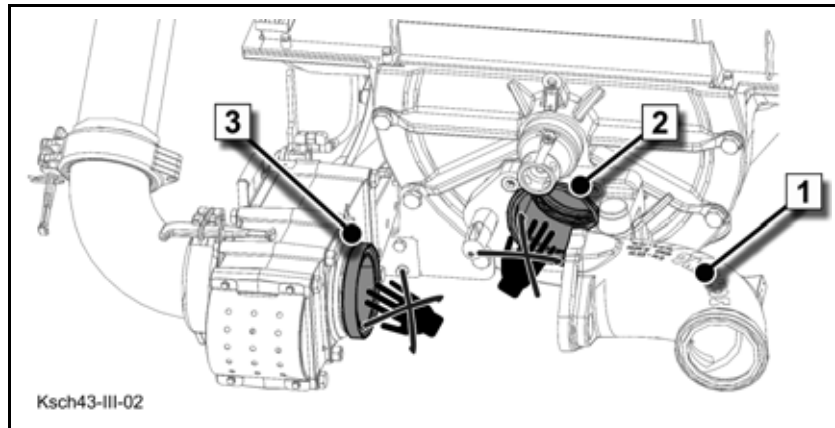

Fig. 519
If the "outlet" (1) (**Fig. 519**) is folded up, the chamber valve (3) and the rock valve (2) can be accessed.